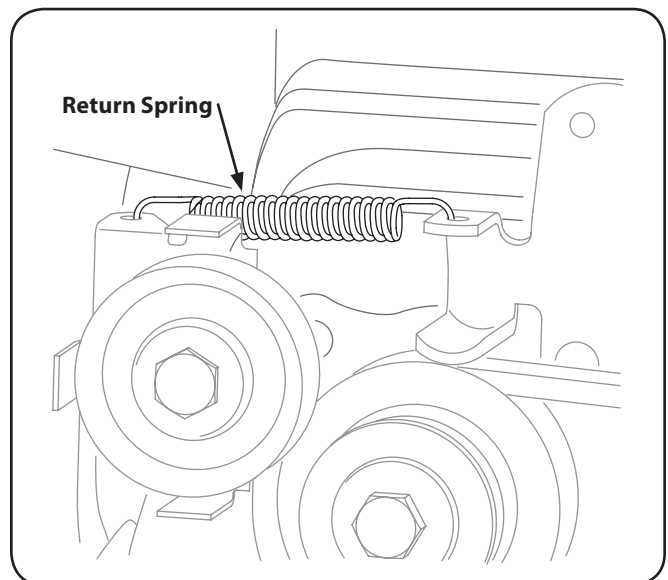

Figure 7-3
2. Remove the return spring. See Figure 7-3.